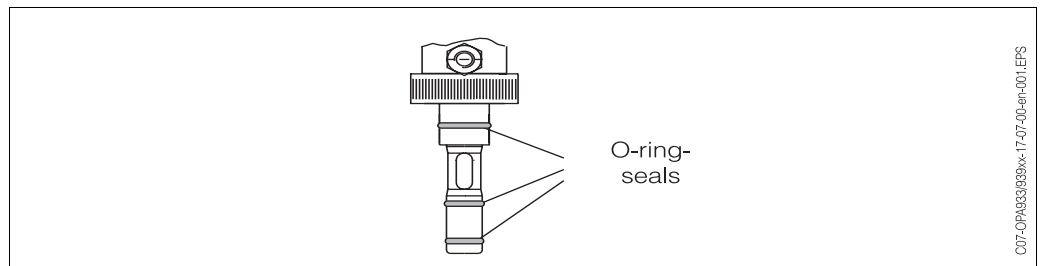

Fig. 3.15: O-ring seals of the CleanStar OPA 933/939 (in contact with medium)
- Inspect O-rings (see Fig. 3.15) in contact with the medium regularly and replace at reasonable intervals.